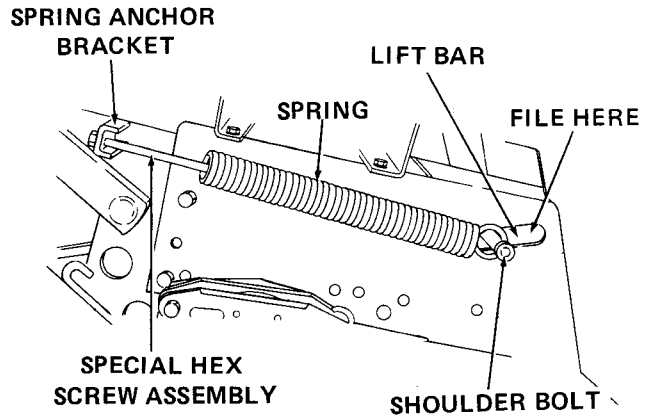

Figure A-26
13. Install spring (12) as follows. Refer to Figure A-26.